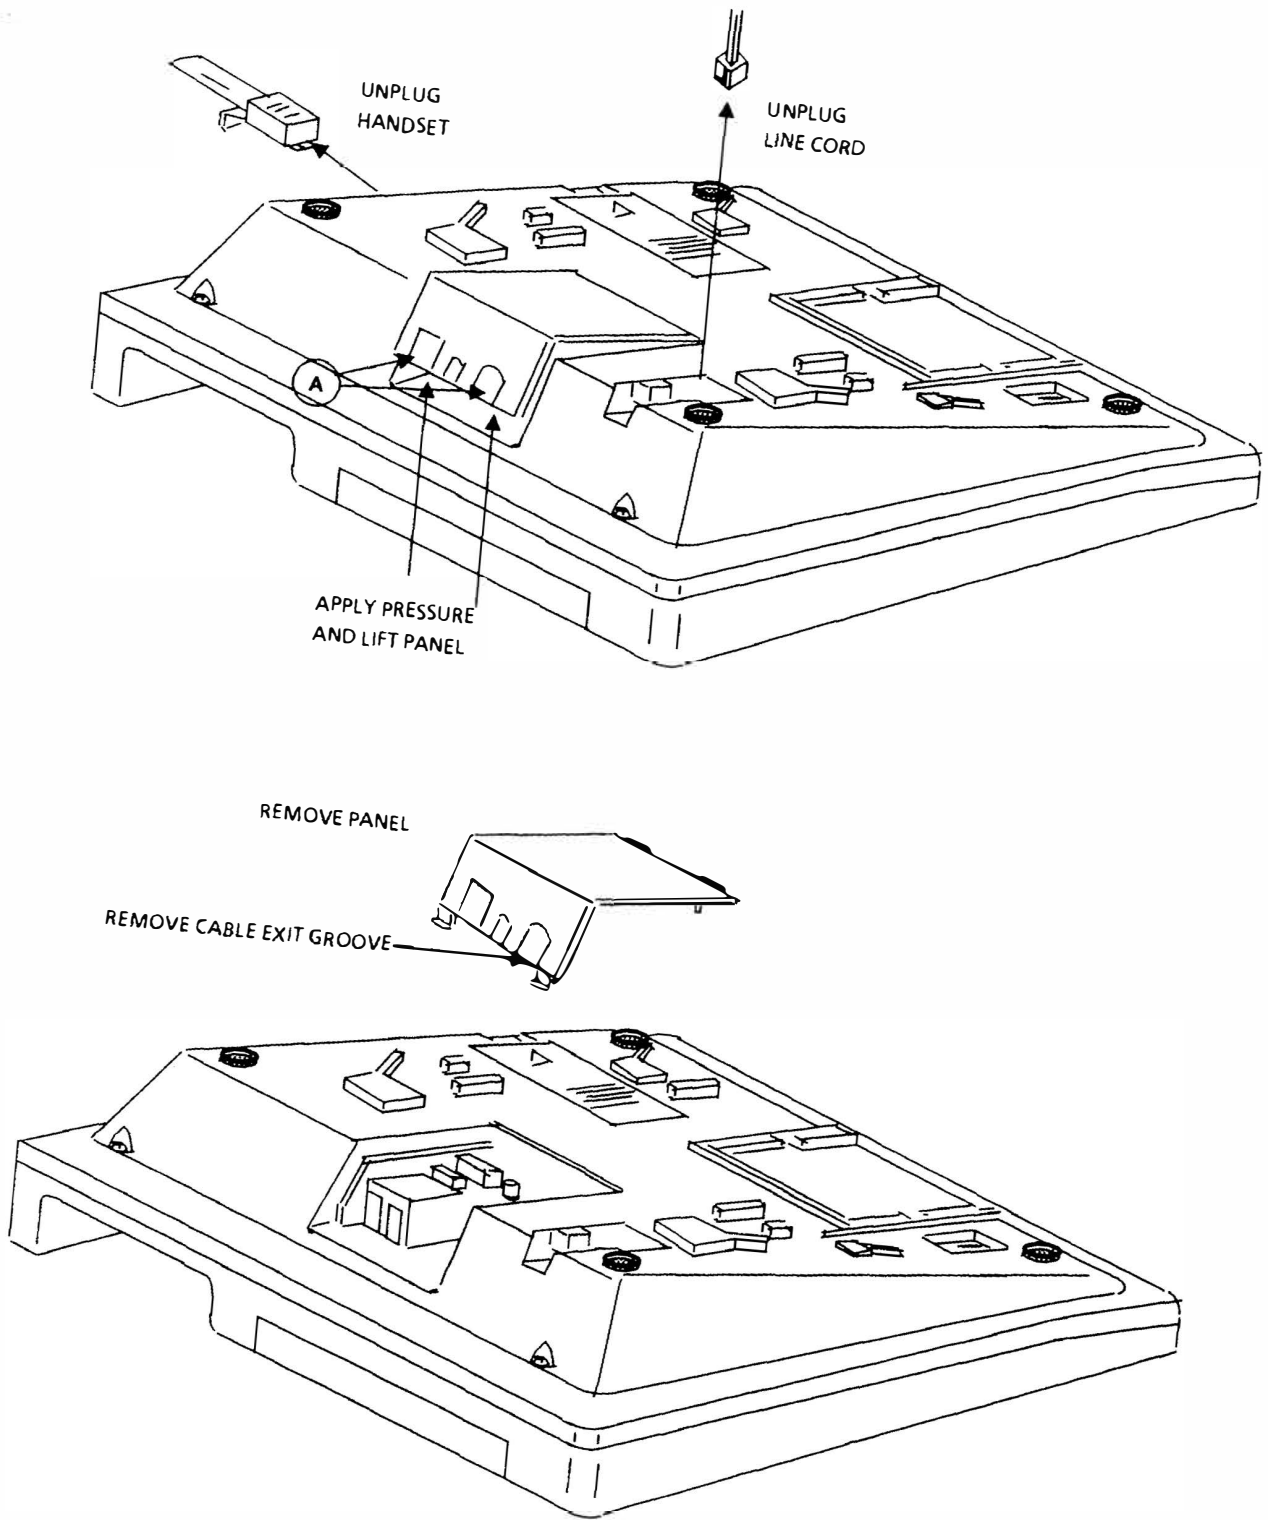

Figure 1 Access Panel Removal
- 4.12 Remove the tongue on the cover assembly to clear the cable exit groove (see Figure 1).